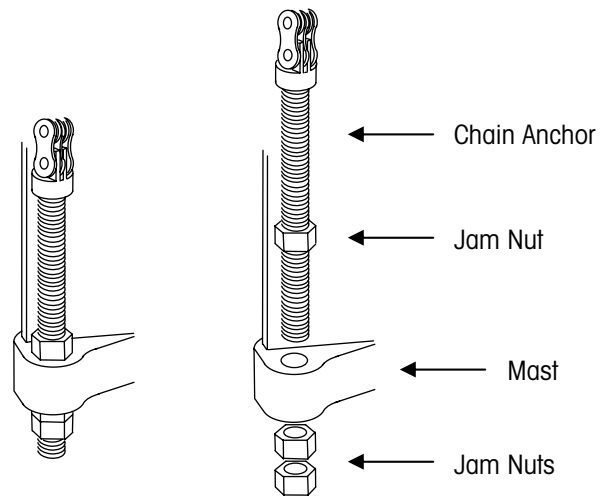

Figure 6-4: Chain Anchor Assembly
11. Disconnect the chain anchor from the mast by removing the lower nut from the threaded anchor (see Figure 6-4).
5. Remove the lower nut from the threaded chain anchor. Insert the threaded chain anchor into the mounting hole in the mast. Place the lower nut on the threaded anchor and tighten it until both it and the upper nut are tight against the mast (see Figure 6-4).
6. Disconnect the two chain anchors from the mast by removing the lower nut from each threaded anchor (see Figure 6-4).
16. Insert each chain anchor into its mounting hole in the mast, and screw a nut onto the bottom end of each threaded anchor (see Figure 6-4). Tighten the jam nuts against the mast to secure the chains.